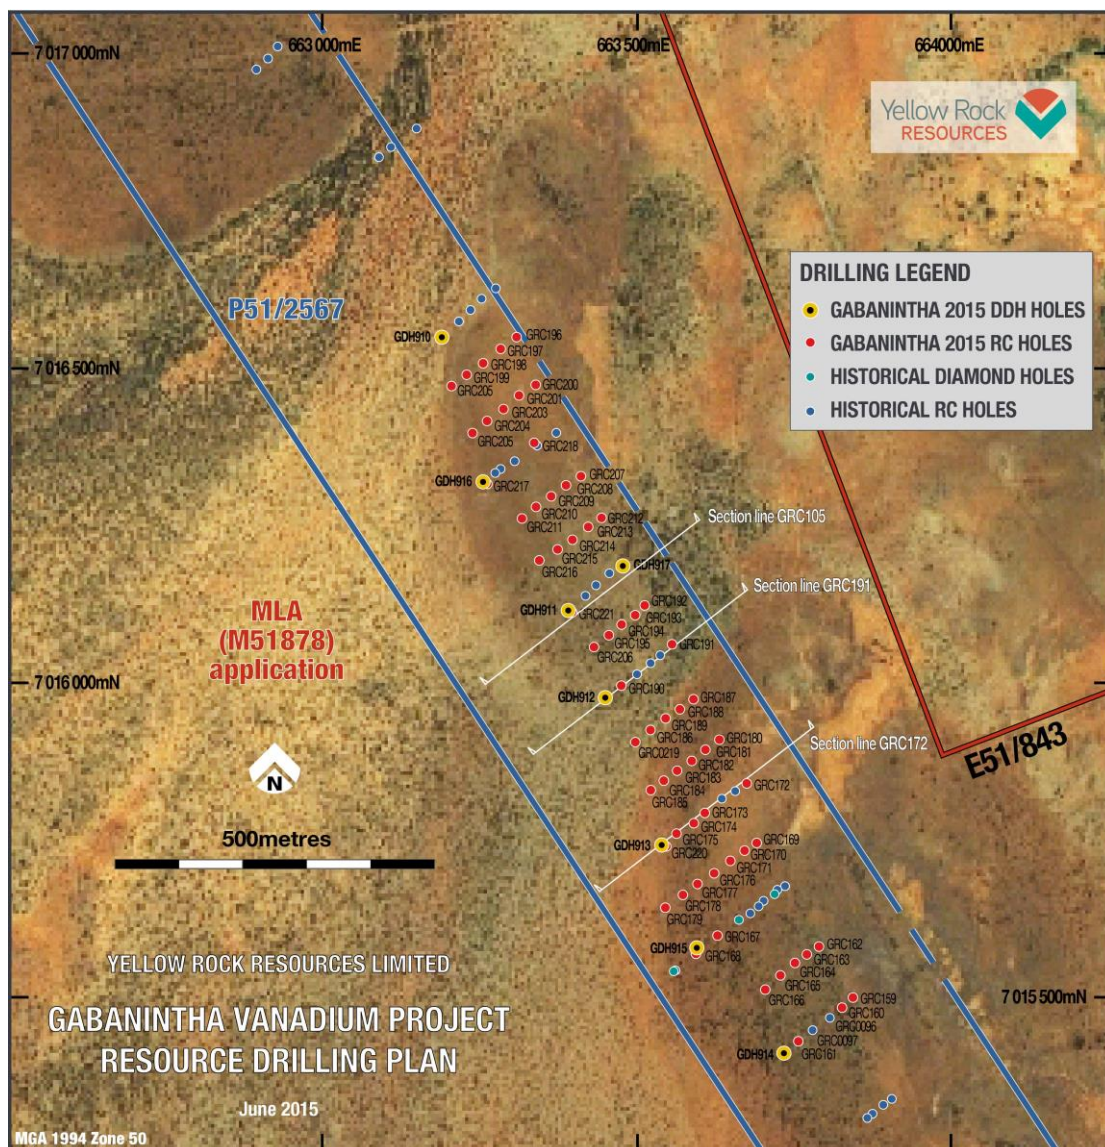
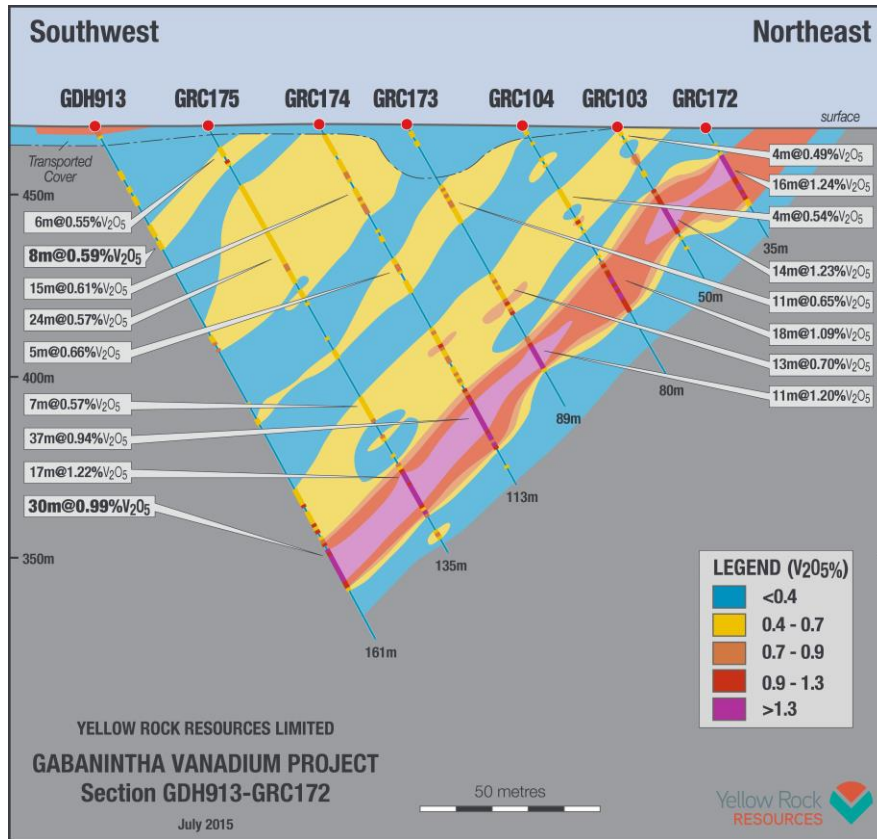
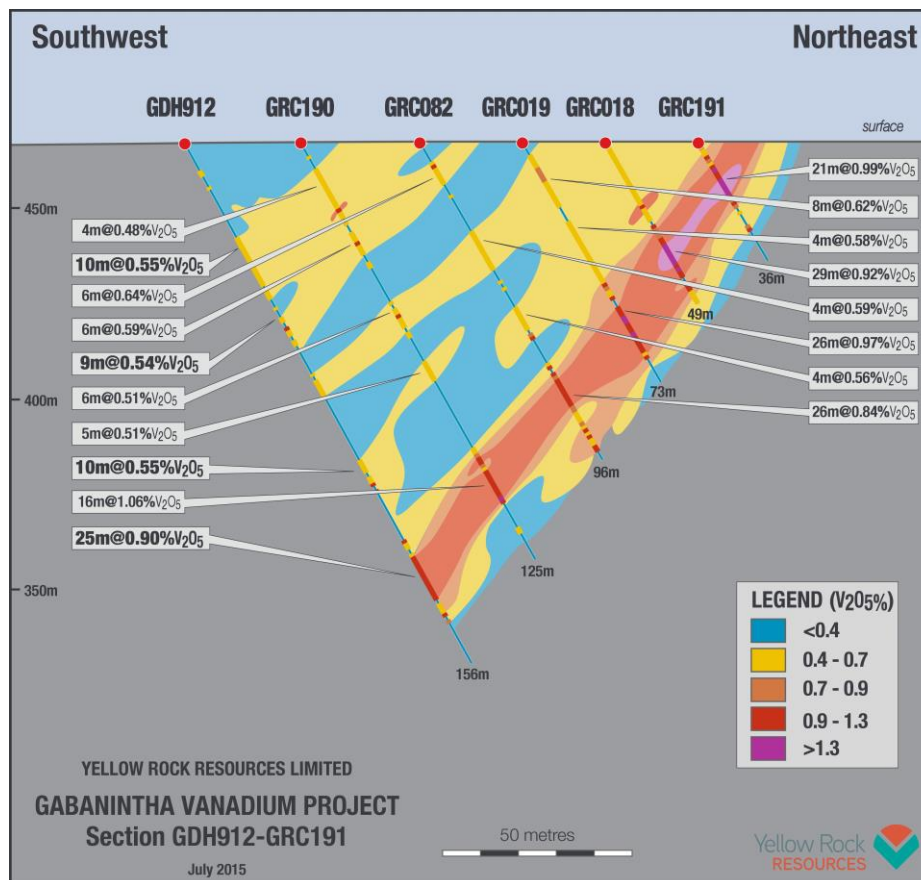
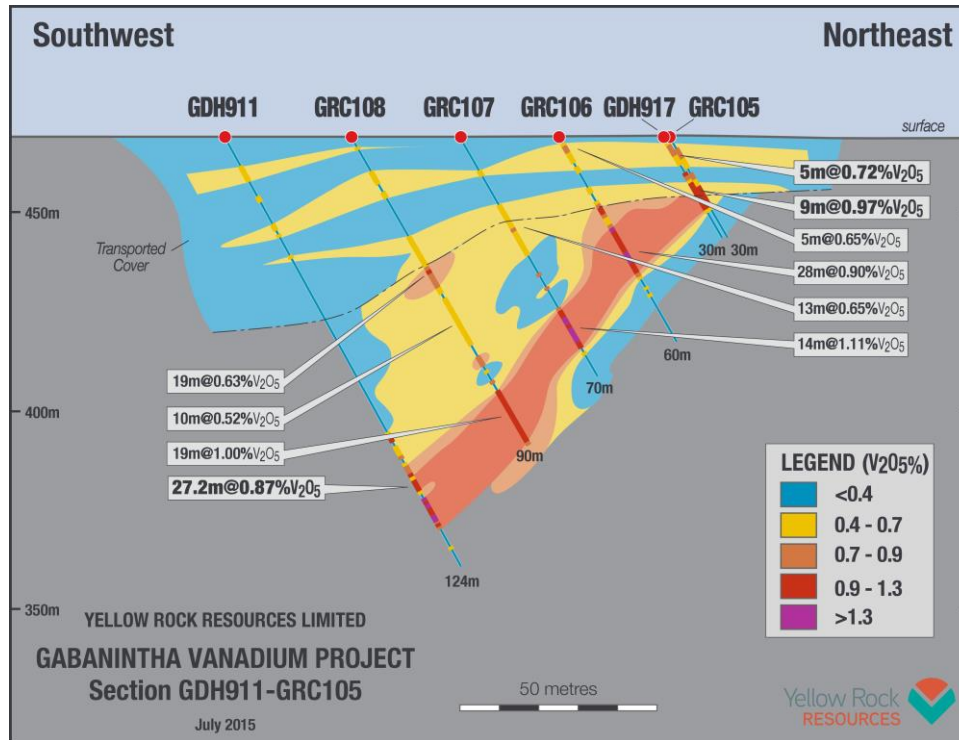

Figure 2 Detailed Location Diagram – New RC and Diamond Drilling, 2015. Sections in this report are indicated with named section lines
Figure 3 Cross Section GDH913 to GRC0172
Figure 4 Cross Section GHD912 to GRC0191
Figure 5 Cross Section GDH911 to GRC0105
The diamond drill holes were mostly located on the Western extremity of the drill lines as shown in Figure 2. In that position, the drillholes comprise the deepest hole on the section (see the diagrams in Figure 3,4,5), allowing the logging and sampling of a complete sequence of the intrusion. Geotechnical assessment of the diamond holes will allow important geotechnical parameters to be identified for use in open pit wall angles and behaviour during the mining study.
- Figure 2 shows the location of all the holes in the current program as well as the holes reported in this release.
- Figure 3 and Figure 4 and Figure 5 show schematic drill sections containing holes reported in this release. The section locations are shown in Figure 2. The background image to the sections was created using Discover 2014 MapInfo Pro Bundle Surfaces menu. V2O5 results for drillholes gridded with interactive grid, using Inverse Distance Weighting, a cell size of 1m, elliptical search bias of 60m x 20m oriented predominantly at 45° to vertical. The subsequent gridded data was then queried by Multiple Value Ranges (0.1, 0.4, 0.7, 0.9, 1.3% V2O5), and coloured to produce the image.
The results contained 158 significant (>0.5% V2O5, >4m in width) intersections as well as the highest-grade intersections identified on the project to date up to 2.15% V2O5. The drilling intersected 15 individual 1m assays over 1.50% V2O5 in seven separate drill holes. Significant areas of very high grades never seen in previous wide spaced drilling have been identified in consecutive holes and over multiple adjacent sections. (See Figure 3, 4 and 5).